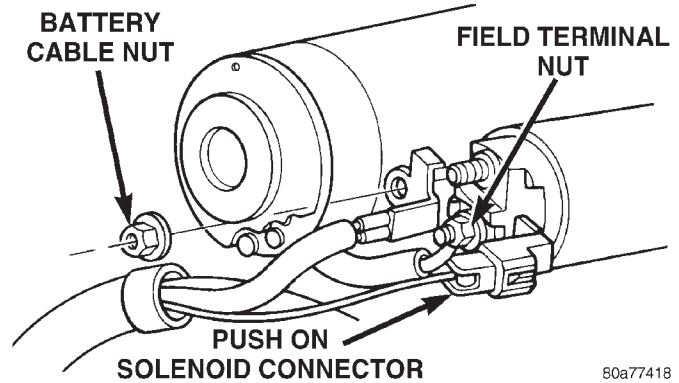

Fig. 10 Wire Terminal Connections
- (5) Remove starter assembly from transmission housing. Position the starter to gain access to the wiring connectors.
- (6) Remove the battery positive cable nut from starter and remove the cable (Fig. 10).